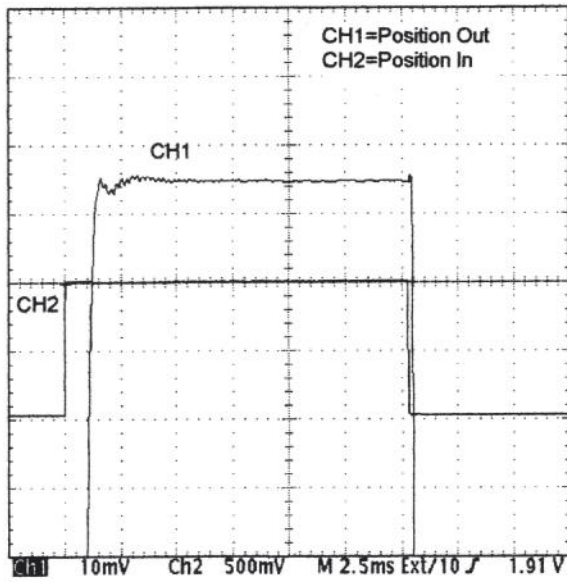

Figure 7.
4. Adjust the oscilloscope channel monitoring Vp to 10mV/div. The system should now look like Figure 7.